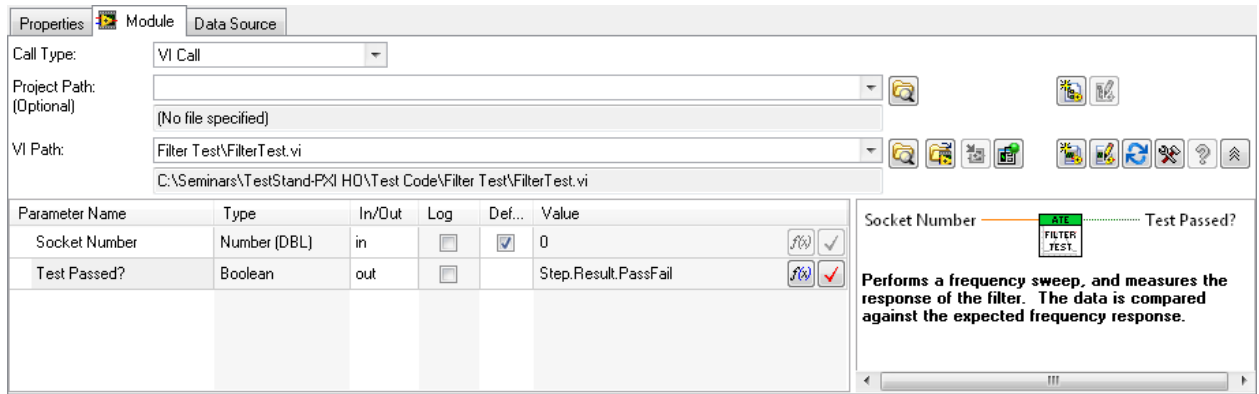

Figure 1-10. Completed Filter Test Step Configuration
7. Verify that the step settings match closely to Figure 1-10.